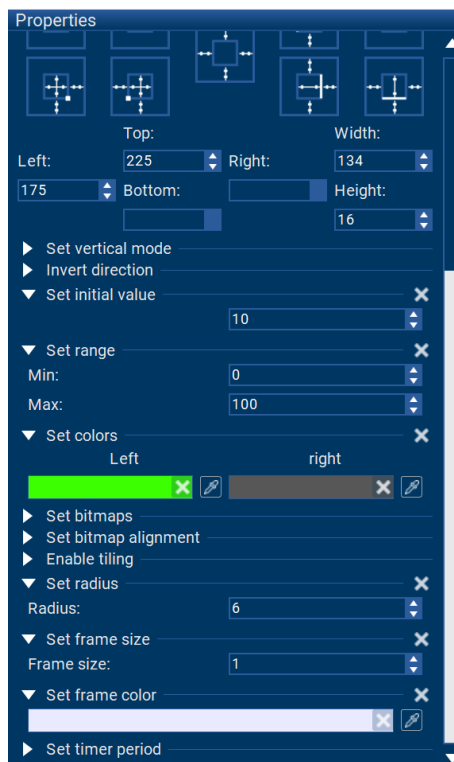

Figure 1-36 Progbar - Properties
- 1) Follow the order and settings shown in Figure 1-36 to set the initial value, value range, color, disable bitmap, disable tiling, set the radius, set the frame size, and set the frame color.